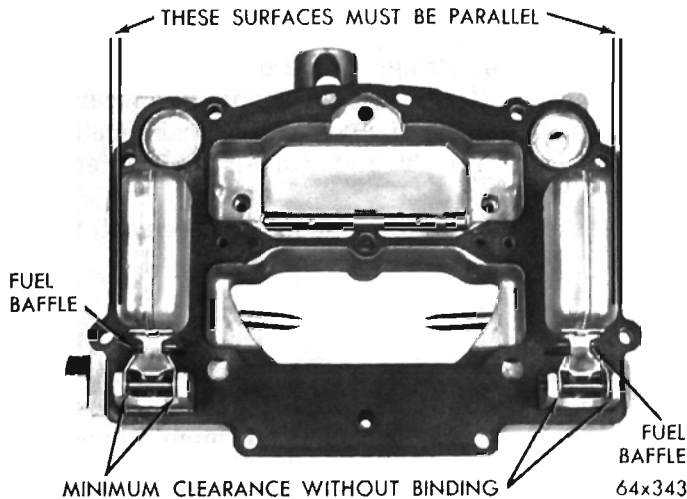

Fig. 9—Checking Float Alignment
(1) Sight down side of each float shell to determine if side of the float is parallel to outer cage of air horn casting, as shown in (Fig. 9).
(2) If sides of float are not in alignment with edge of casting, bend float lever by applying pressure to end of the float shell with thumb. **To avoid damage to the float, apply only enough pressure to bend the float lever.**
(3) After aligning floats, remove as much clearance as possible between arms of float lever and lugs of air horn. To do this, bend float lever. The arms of the float lever should be as parallel as possible to the inner surfaces of the lugs or the casting.